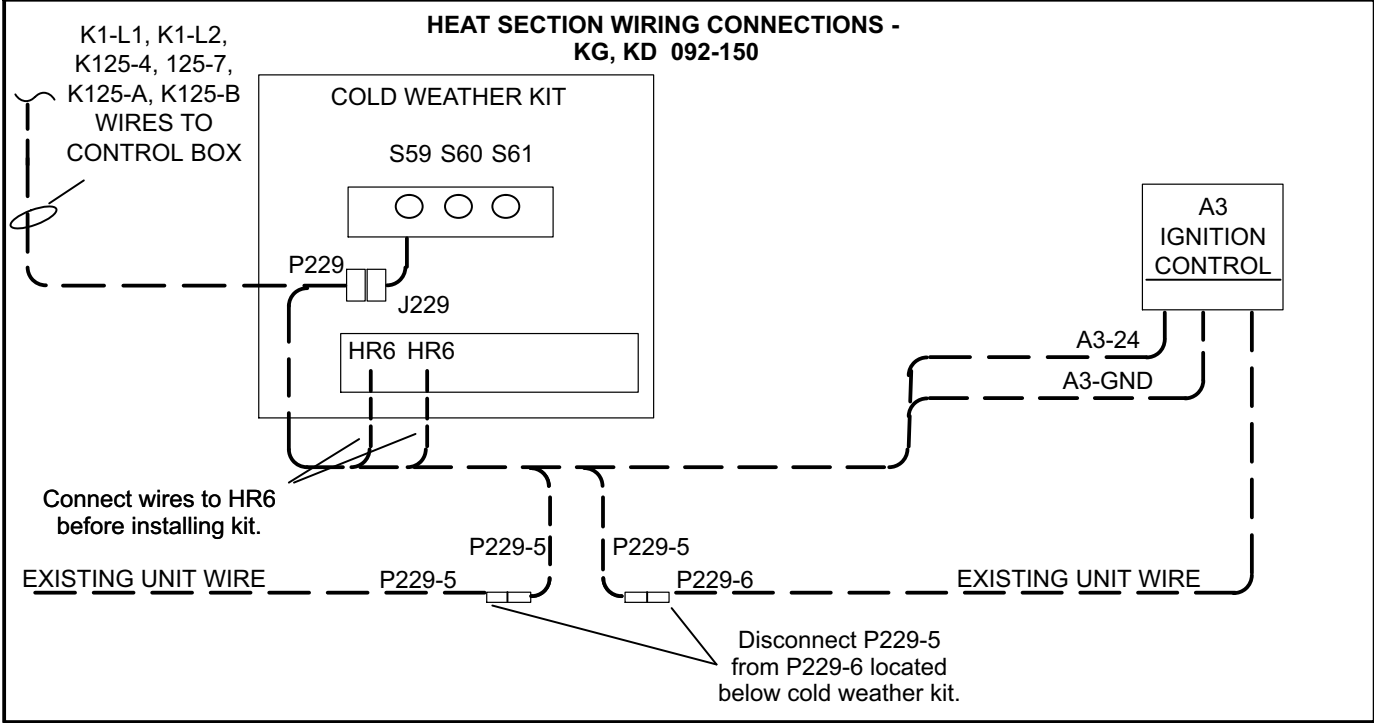

FIGURE 7
- 4- Remove cold weather kit cover and connect wires labeled HR6 to the cold weather assembly. See figure 7. Replace cold weather kit cover.
- 7- Make wire connections in the control box as shown in figure 5 and in the heat section as shown in figure 7.